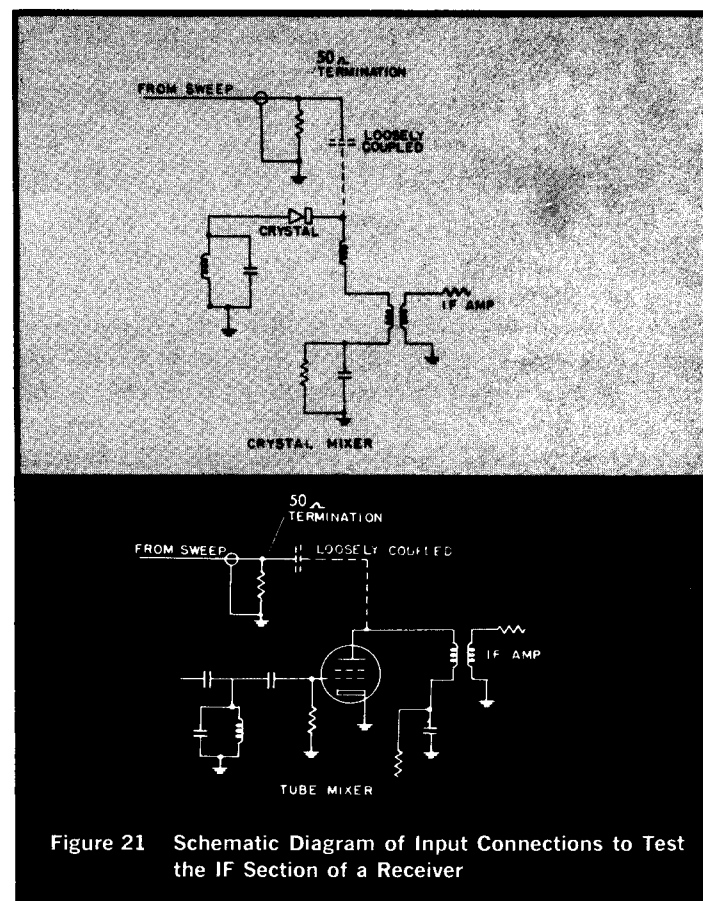

Figure 21 Schematic Diagram of Input Connections to Test the IF Section of a Receiver
- The output of the sweep should be introduced into the mixer circuit in some way that will give reasonably uniform response without changing the output impedance of the mixer. One way of doing this is shown in Figure 21. The output of the sweep is connected to a terminating resistor near the output terminal of the mixer, and is coupled to the mixer output loosely enough to avoid changing the tuning of the mixer output circuit.